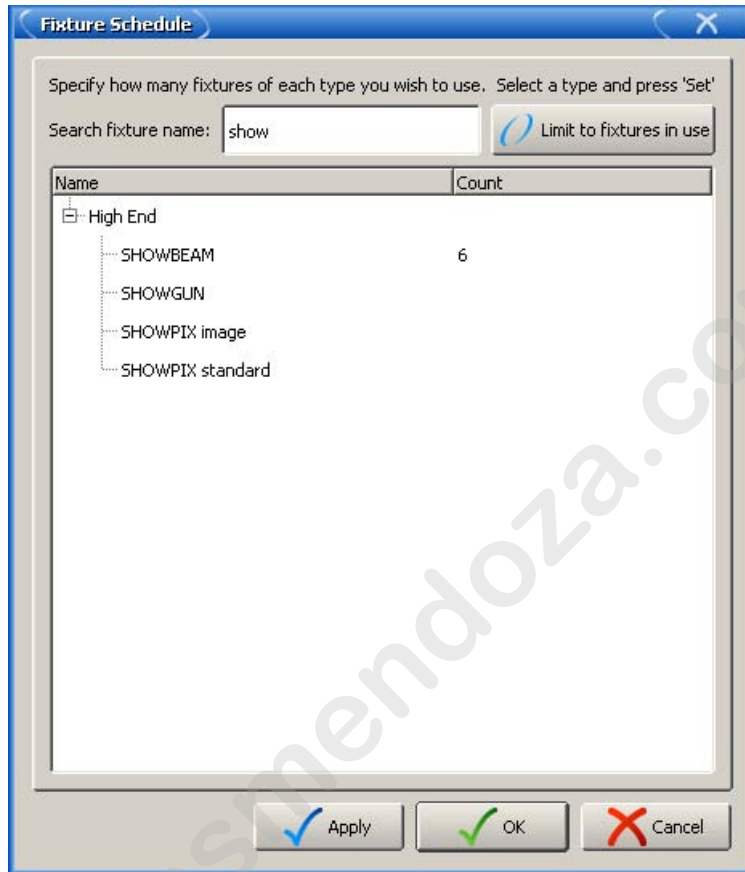

Figure 14.3. The Fixture Schedule Search Feature
4. Alternatively, type a fixture name into the Search fixture name field at the top of the window; see *Figure 14.3, "The Fixture Schedule Search Feature"*.